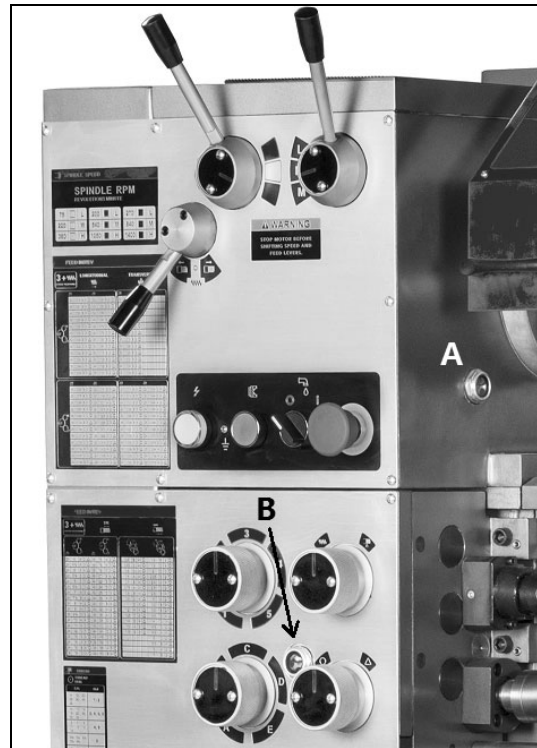
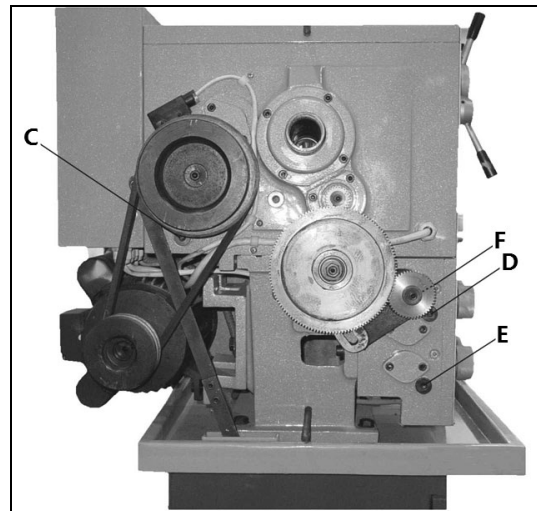

Figure 6-1
Figure 6-2
1. **Headstock** – Oil must be up to indicator mark in oil sight glass (A, Figure 6-1). Top off with Mobil DTE® Oil Heavy Medium. Fill by pulling plug located on top of headstock cover beneath rubber mat. Drain oil by removing drain plug (C, Figure 6-2) and refill after first month of operation. Clean out any metal shavings. Then, change oil in headstock annually.
2. **External Gears** – Coat all gears with a heavy, non-slinging grease, see Figure 6-2. Do **not** get grease on pulleys or belts.
4. **Gearbox** – Oil must be up to indicator mark in oil sight glass (B, Figure 6-1). Top off with Mobil DTE® Oil Heavy Medium. Fill by removing plug (D, Figure 6-2). Drain oil by removing drain plug (E, Figure 6-2) and refill after first month of operation. Then, change oil in gearbox annually.